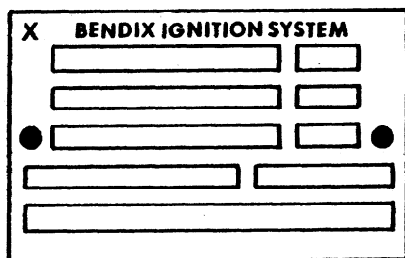

Figure 1. Location of "x" on Identification Plate
All D-3000/3200 Series (blue) Magnetos with Serial Numbers 100 through 1968 not identified by the letter "x" in the upper left corner of the identification plate (see figure 1). The "x" on the identification plate indicates previous compliance.
7. After the magneto has been reassembled with new serviceable gears, identify the magneto by stamping the letter "x" in the upper left corner of the identification plate, before the word "Bendix" (see figure 1).